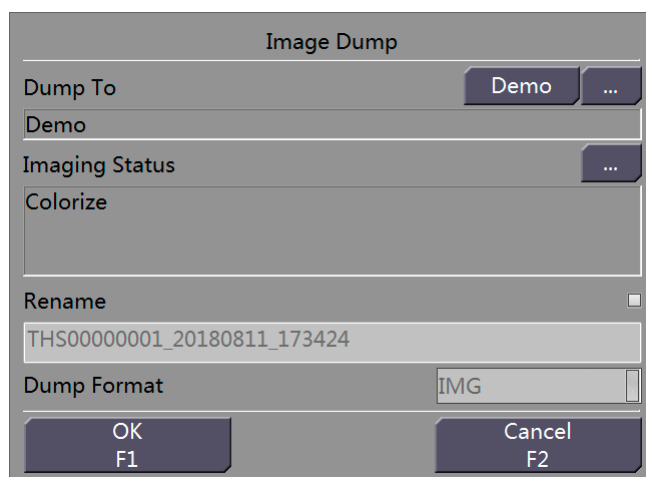

Figure 14-4 Image Dumping Interface
Step 3 Click “Dump” to display the “Image Dump dialog” box, as shown in Figure 14-4.
Step 3 Click “Dump” to display the Image Dump dialog box, as shown in Figure 14-4.